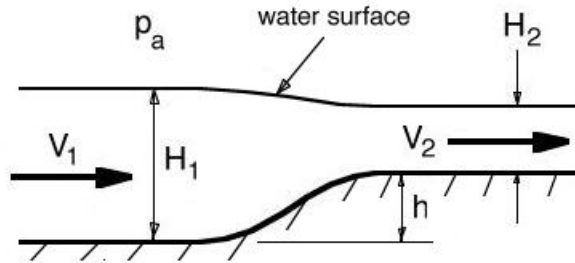

Figure P10.23
10.23 Water flows steadily over a bump of height h , as shown in Figure P10.23. The width of the channel is constant. At position 1, the depth of the water is H_1 and its velocity is V_1 , and at position 2, the depth of the water is H_2 and its velocity is V_2 . The Froude number at position 1 is $F_1 = 0.2$.